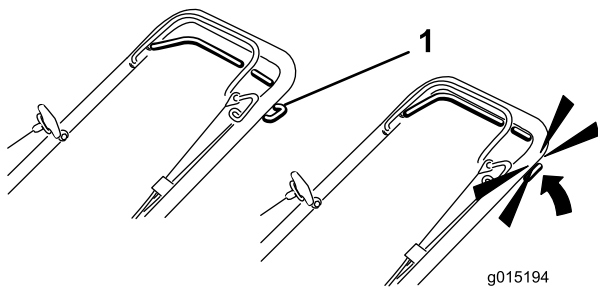

Figure 23
1. To operate the self-propel drive, squeeze the self-propel drive bar against the handle and hold it (Figure 23).